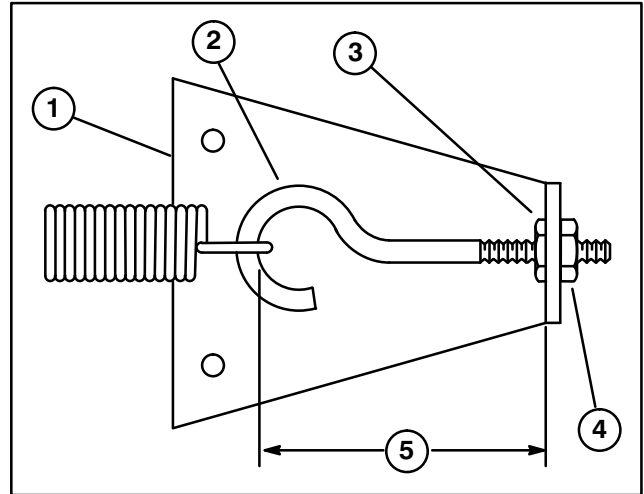

Figure 69
CHECKING AND ADJUSTING TRACTION LINKAGE (Fig. 69)
4. Rotate, clockwise, until distance between inside of eye bolt loop and inside of spring anchor plate is shortened 1/8", as shown in figure 69. Tighten hex nut.